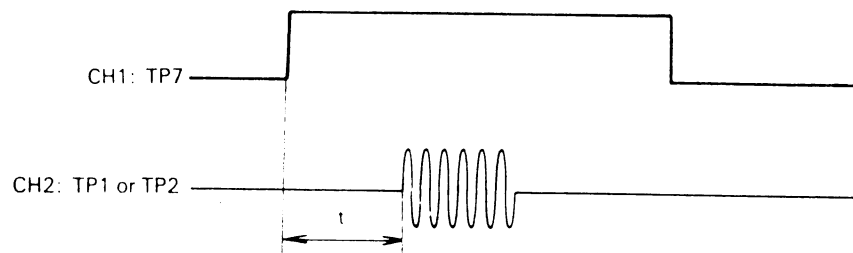

Fig. 308
2. Rotate the DD motor and load the alignment disk. It is assumed that the tracking alignment has been adjusted correctly in item 3-9.
4. Measure "t" as shown in Fig. 308.